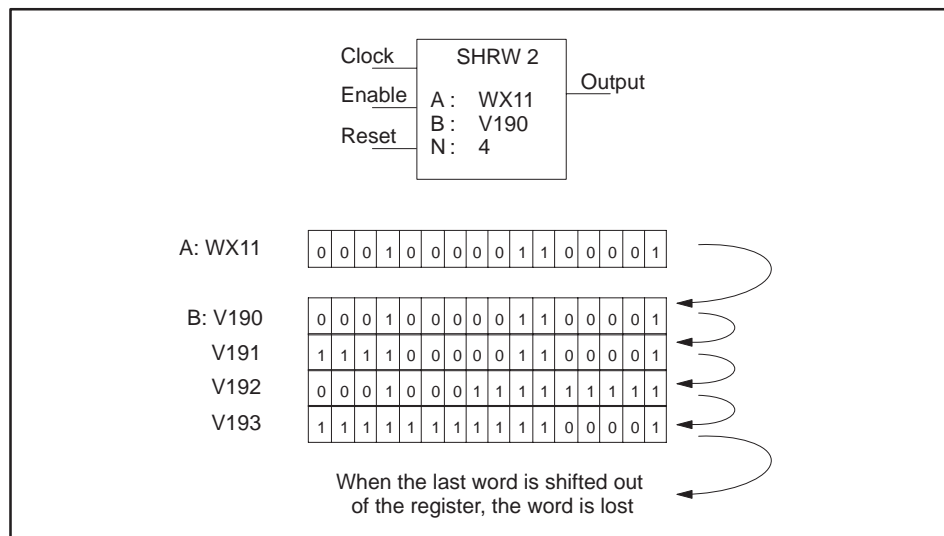

Figure 6-81 SHRW Operation
**SHRW Operation** The operation of the SHRW is described below and shown in Figure 6-81.